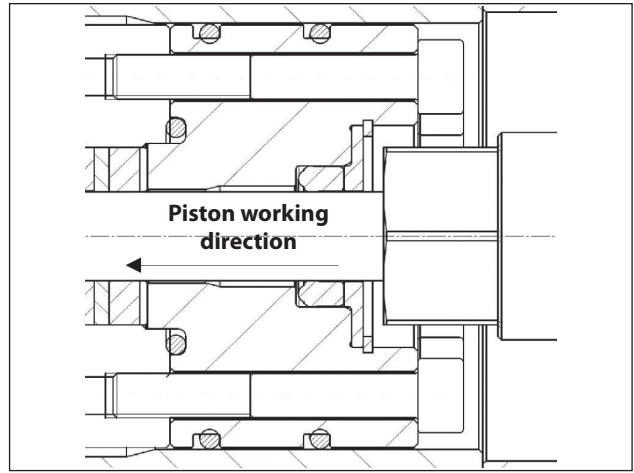

Fig. 44
- ⚠ The L.P. seal must be inserted into the liner with the sealing lip in the piston working direction as shown in Fig. 44 and Fig. 45, slightly lubricating the external diameter with silicone grease type OKS 1110.